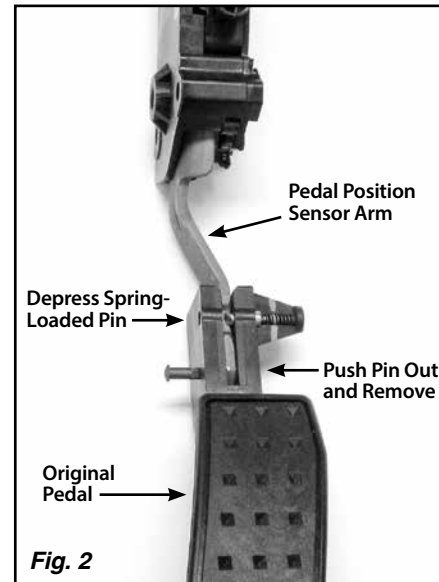

Fig. 2
Step 1: The original pedal is attached to the pedal position sensor arm with a steel pin that is pressed into the left side of the original pedal. Remove this pin by pushing it out from the right side of the pedal using a press or a hammer and punch. **Fig. 2**